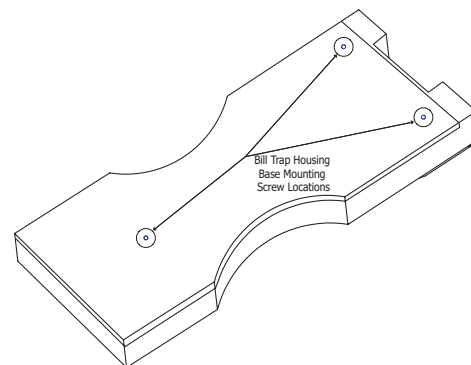
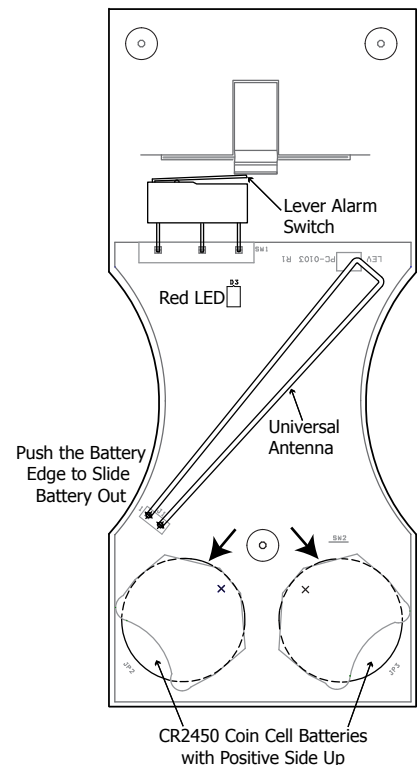

Figure 2: Bill Trap Base and Mounting Screw Locations
Figure 3: Bill Trap Battery Locations
Note: Refer to Figure 2 to remove the 1139 housing base and Figure 3 for the 1139 PCB LED location.
1. Use a Phillips screwdriver to remove the three screws holding the base and housing together. See Figure 2.
3. If installed, push and slide each old battery out of the holder in the direction of the arrow to remove it. See Figure 3.